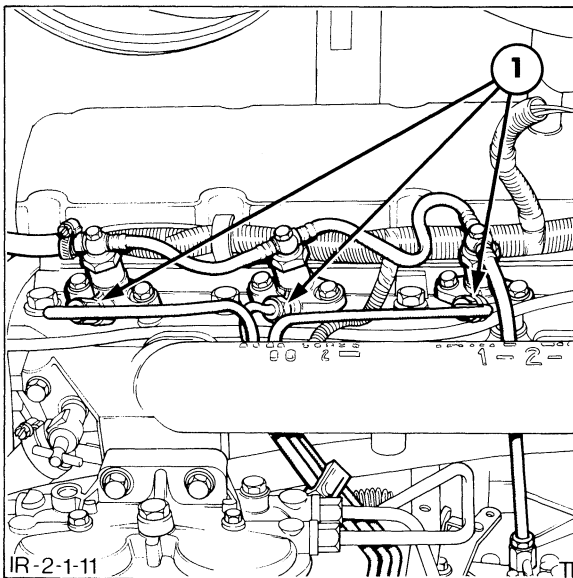

FIGURE 2-9
4. Loosen the injector line connections, Figure 2-9. Continue to crank the engine until air-free fuel is discharged from the connections. Tighten each connection in turn while the engine is still cranking.